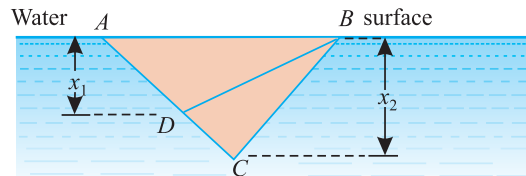

Fig. 35.6.
**Example 35.6.** A triangular lamina ABC is immersed in water with the side AB coinciding with the water surface as shown in Fig. 35.6.